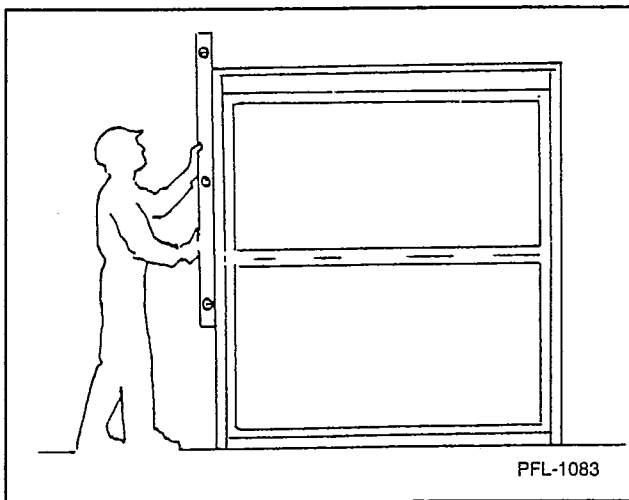

Figure 4
9. Plumb the gate using a plumb bob or a four foot or longer level. See Figure 4.